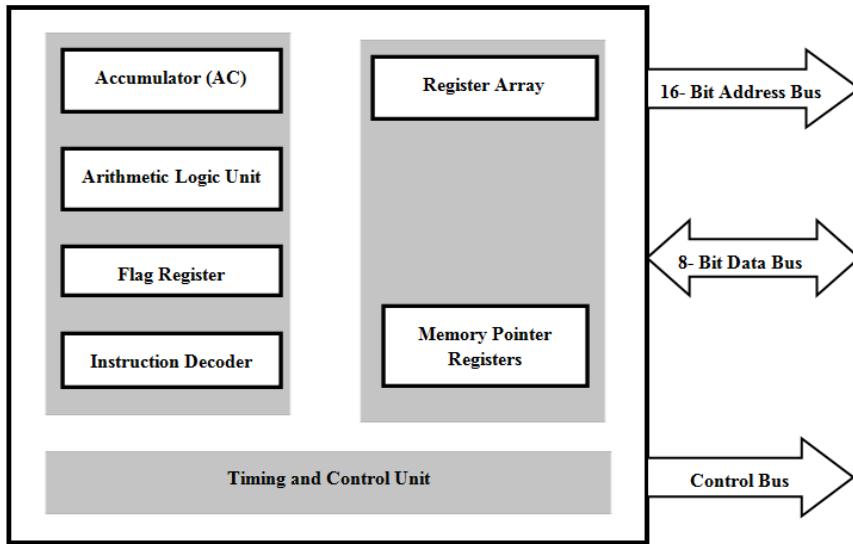
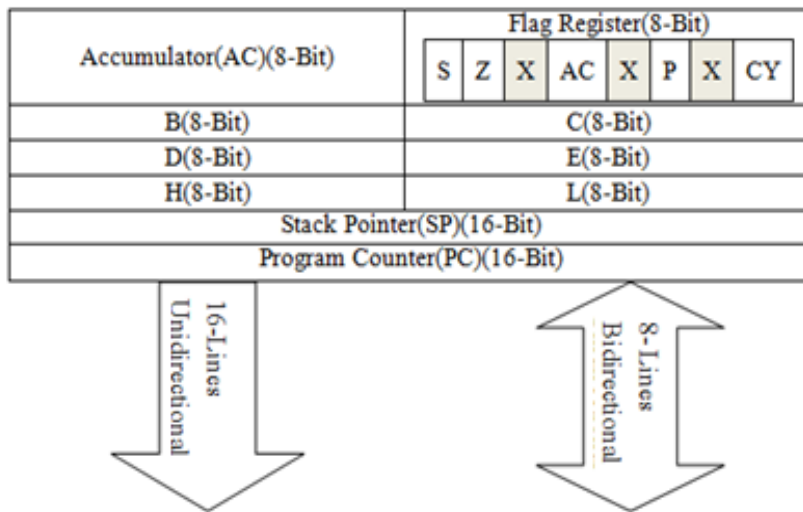

Figure 60 : Block Diagram of 8085 Microprocessor
Figure 61 : Registers in 8085 microprocessor
1. Intel 8085 microprocessor have six 8-bit general purpose registers viz. B,C,D,E,H and L(Figure 60 and Figure 61). However these registers can be paired as BC, DE and HL to perform 16-bit operations.